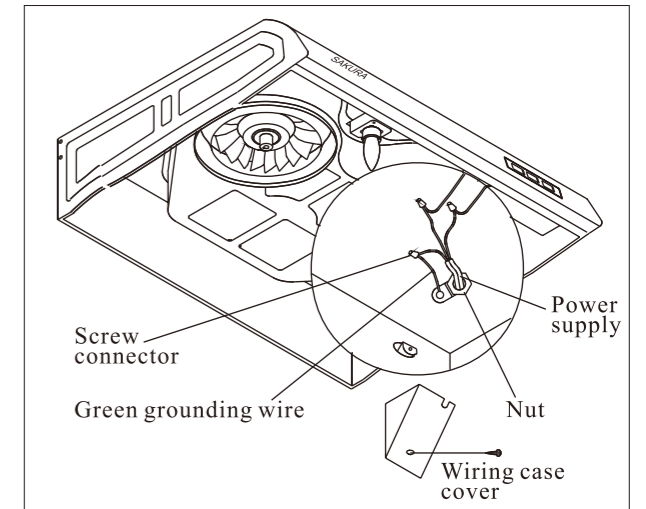

Fig. 14 Wire the power supply cord(U2II)
11. Connect the leading wires and power supply cord (refer to the circuit diagram on page 10/11 in this manual.), put back cover and screw on. (Fig. 14)